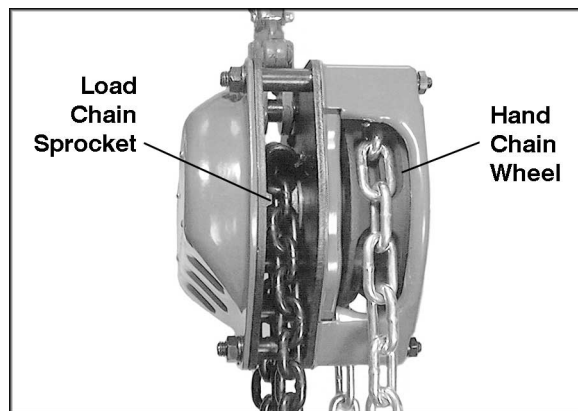

Figure 9
- If installing entire new chain, insert the end of the hand chain into the groove at the top of the hand chain wheel (see Figure 9). Rotate the handwheel and pull the chain through. Re-weld the link at the cut.
1. Position the load chain sprocket by rotating the hand chain wheel (see Figure 9) so that the wide and narrow grooves show in the sprocket.